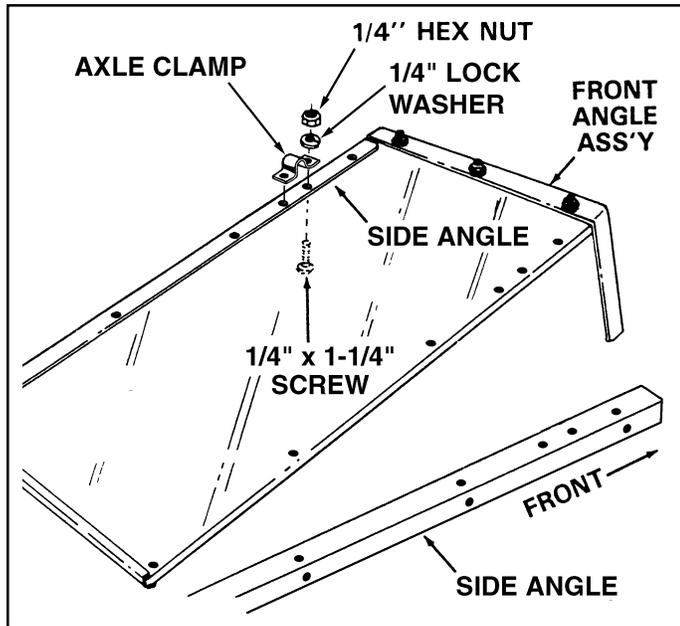

FIGURE 3
- Turn the front angle assembly and bottom panel upside down as shown in figure 3.
- Lay each side angle on the bottom panel so that the two holes (for the axle clamp) are closer to the front angle assembly. See figure 3.
- Secure both axle clamps to the side angles and the bottom panel using four  $1/4"$  x  $1-1/4"$  screws, lock washers and hex nuts. **Make only finger tight** until the axle is assembled. See figure 3.